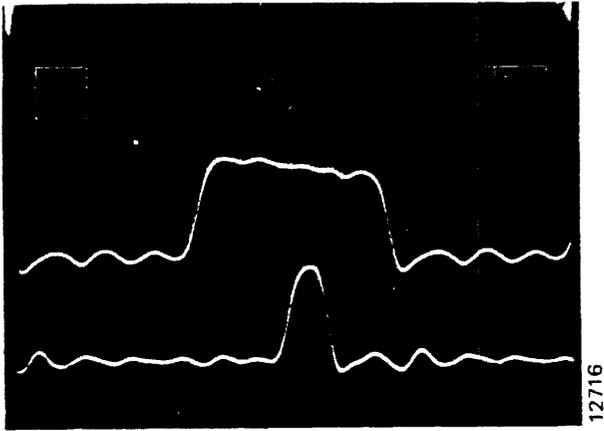

Figure 3-22. Skew One-Shot Adjustment Waveform
15. Increase the scope sweep rate to 20 nanoseconds per division, and center the Channel 1 positive or negative half cycle at the 50-percent amplitude points. See Figure 3-22. Fine adjust potentiometer R16 to position the leading edge of the Channel 2 pulse exactly center of the Channel 1 half cycle at its 50-percent amplitude point.